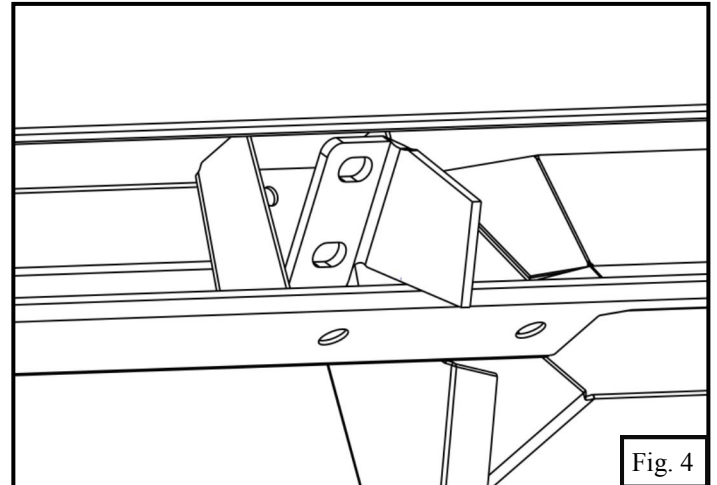

Fig. 4
4. Before installing board to the previously installed brackets tilt backwards for easy entry into mount location. See **Figure 4**